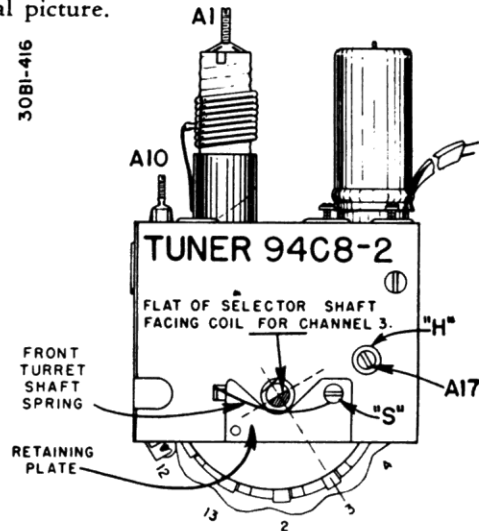

Figure 2-8. Front View of 94C8-2 Tuner With Sharp Tuning Rotor Inside Chassis.
For tuners with sharp tuning rotor assembled **inside** of tuner chassis (see figure 2-8), rotate Sharp Tuning control counter-clockwise until rotor engages stop screw "S" and oscillator slug (A17) can be reached through cutout "H" in tuner chassis. In some tuners it will be necessary to back screw "S" out a few turns to slightly increase rotation of rotor until oscillator slug can be reached.
For tuners with sharp tuning rotor assembled inside of tuner chassis (see figure 2-8), rotate Sharp Tuning control counter-clockwise until rotor engages stop screw "S" and oscillator slug (A17) can be reached through cut-out "H" in tuner front. In some tuners it will be necessary to back screw "S" out a few turns to slightly increase rotation of rotor until oscillator slug is accessible.
properly paired for the indicated channel number, and that coils follow proper sequence when reassembled in the turret drum. For proper reference of tuner shaft in relation to coil position, refer to figure 2-8.
For Tuner with Sharp Tuning Rotor Inside of Tuner Chassis (figure 2-8). Decreasing the spacing between the two stationary metal stator plates will increase the range of frequency. To move the stator plates closer together or further apart, loosen the mounting screw (J, figure 2-11). Unsolder the metal strap K. (This strap was V-shaped in some sets, straight in others.) Reposition stator plate. Resolder strap and tighten screw.
For Tuners with Sharp Tuning Rotor Inside of Tuner Chassis (figure 2-8).
- Remove stop screw "S", the spring, and the retaining plate at the front of the tuner. See figure 2-8.